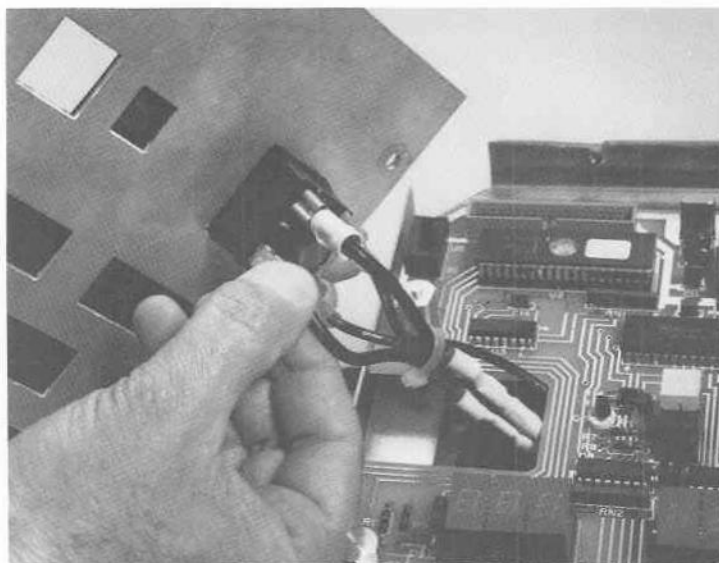

Figure 5.10. Disconnecting POWER Switch Wires from Switch Terminals.
- d) Pry off the push-on connectors of the 4 wires from their terminals on the POWER switch (Figure 5.10).